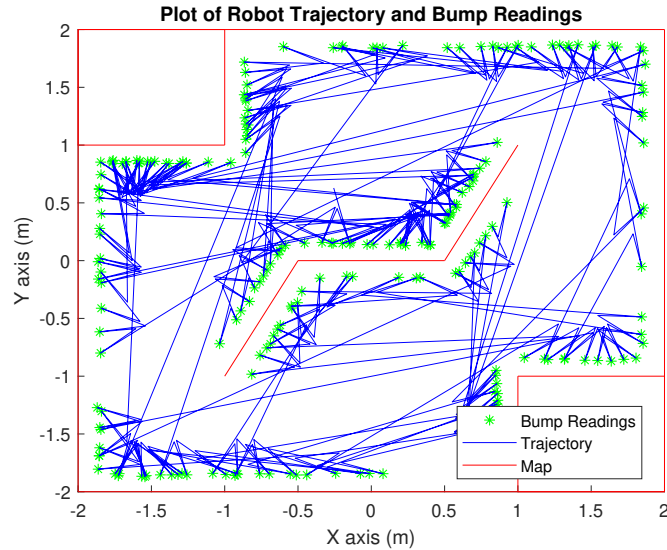

Figure 1: Trajectory of the Robot with Bump sensor Readings and Map
1. Please see Figure 1 for the robot trajectory with bump sensing shown in the plot